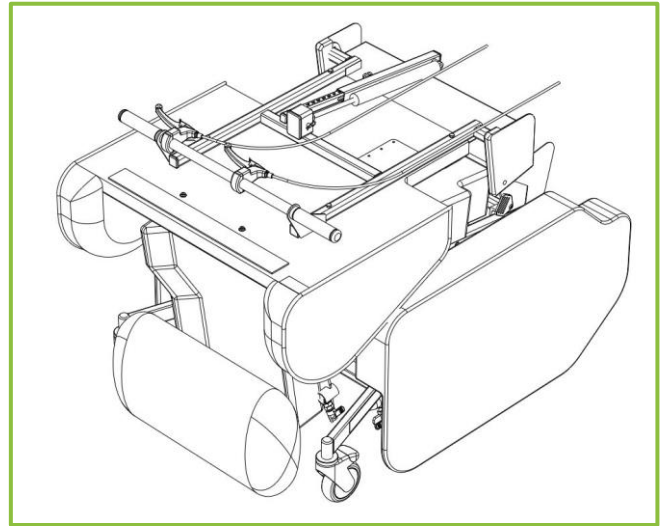

Figure 1 - Chair as delivered (side pieces are loose)
2. Remove the cardboard box and other packaging and the chair should appear as fig 1.